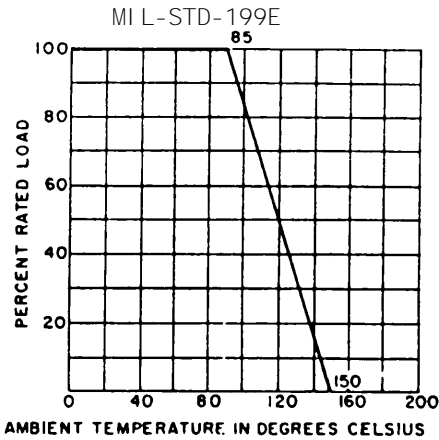

FIGURE 401-1. Derating curve for high-ambient temperature.
2.1.3 Power rating. These resistors have a power rating based on full-load operation at +85°C (when the maximum resistance is engaged). When the resistor is to be used in a circuit where the surrounding temperature is higher than +85°C, the wattage must be reduced so as not to overload the resistor. (See figure 401-1.)